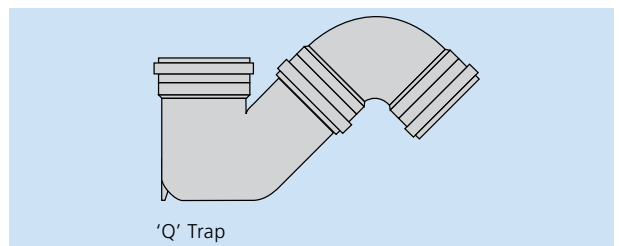

Fig. 21
- Use 4DG90 Gully Trap and 4D23D Bend 871/2° (Fig. 21)